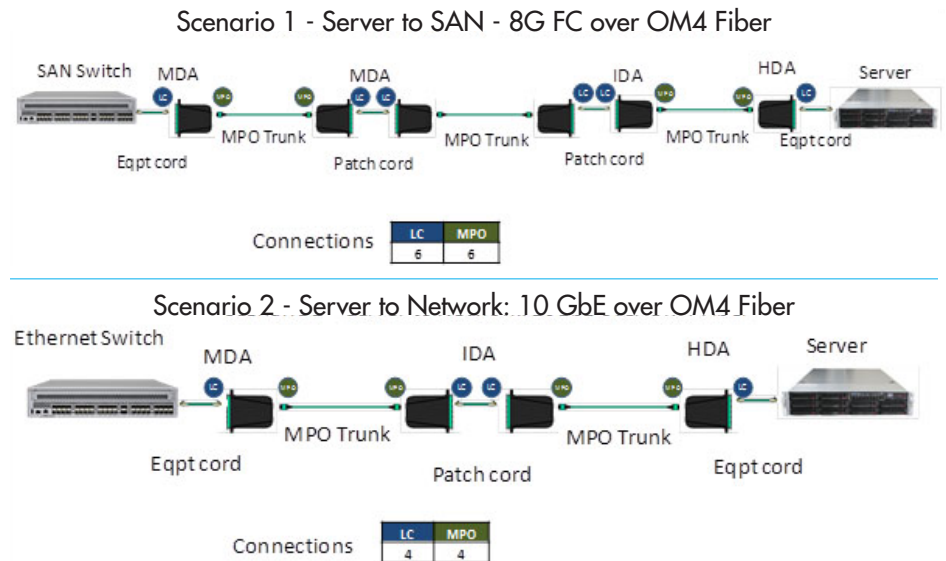

Figure 10. Example data center topologies
Suppose you were planning the implementation of new data center services for the topologies shown in Figure 10. The applications that must be supported on day one include 10 Gb Ethernet and 8G Fibre Channel (FC). The data center has been organized into manageable data halls within the data center. Will there be issues supporting the link lengths required by your design?